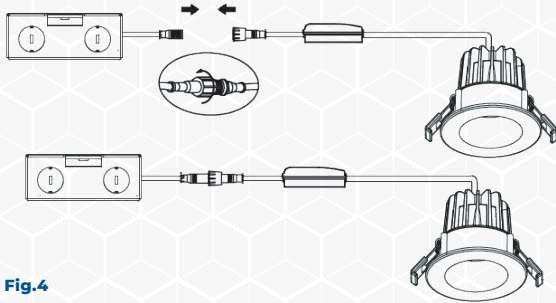

Fig.4
1. Connect light engine. Be sure to properly align connectors and fully screw down connector cover. **(see Fig.4)**